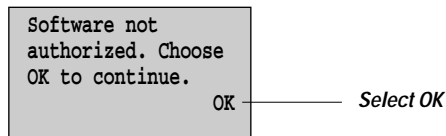

Figure 3-2 Software not authorized screen
2. **At the screen shown in Figure 3-2, select OK.**